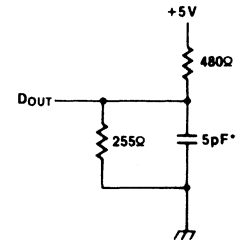

Figure 2. Output Load (for  $t_{HZ}$ ,  $t_{LZ}$ ,  $t_{WZ}$ , and  $t_{OW}$ )
4. Transition is measured  $\pm 200mV$  from steady state voltage with specified loading in Figure 2.